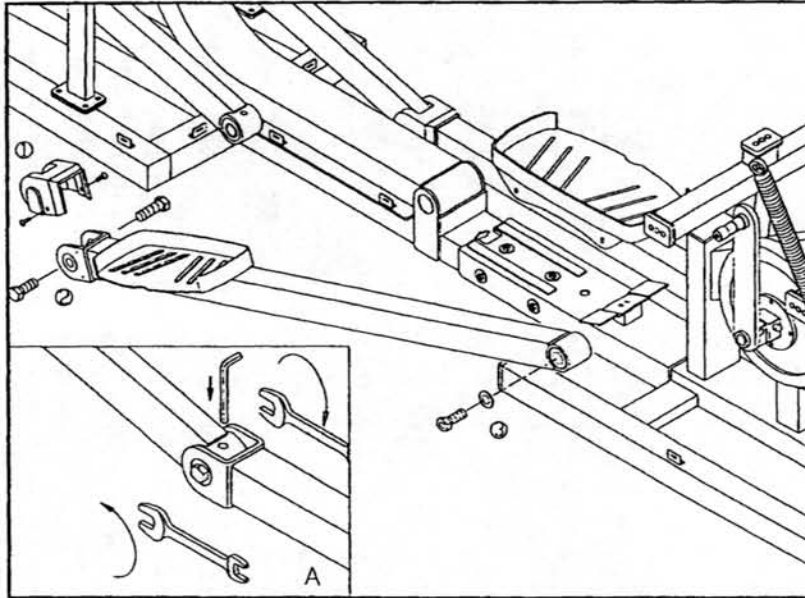

Fig.5-1
2. Remove the left side of STAIR ARM JOINT COVER by unscrewing (see fig 5-1①) firstly.
Secondly, remove the REAR HORIZONTAL LINKAGE from FRONT HORIZONTAL LINKAGE by unscrewing the screw. Using a Hex Allen Wrench to fix left side of screw and use another two wrenches to unscrew from the LINKAGE in two opposite directions (see fig 5-1② and the enlarged fig A).
Lastly, unscrew and take apart the LINKAGE from the FRAME (see fig 5-1 ③).